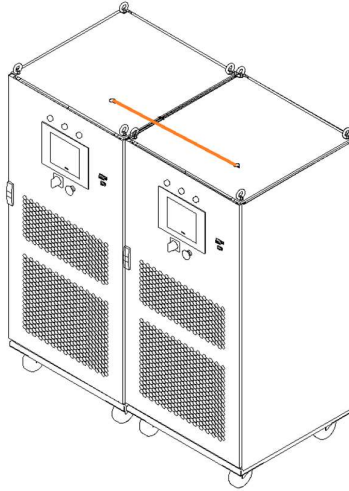

Figure 2-9 Cable holes on the top of the cabinet
**Step 1:** Insert optical fiber cables through the cable holes on the top of the cabinet, as shown in Figure 2-9.